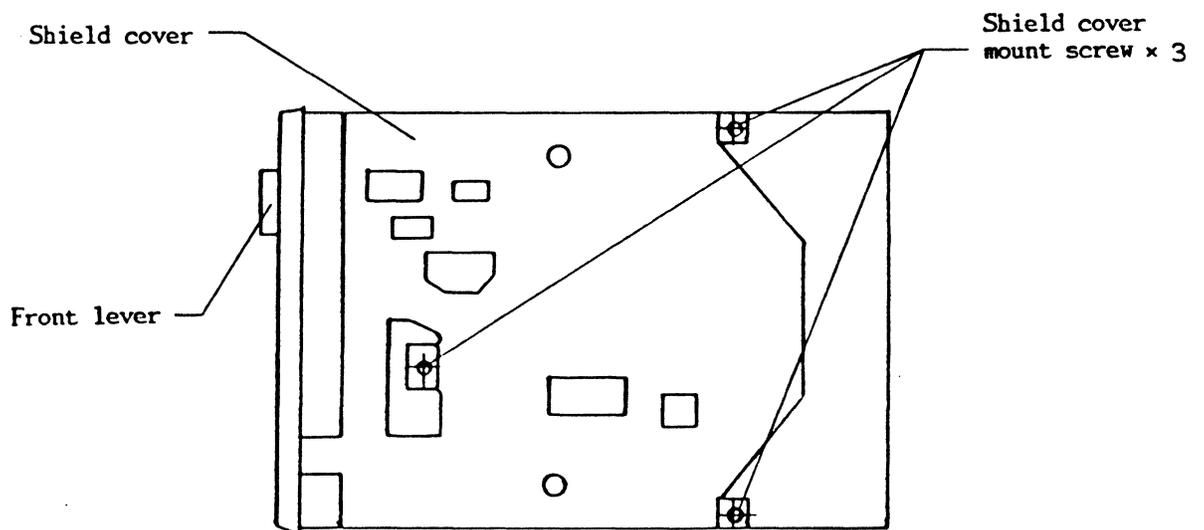

Fig. 407 Shield Cover Mount Screw Locations
- (1) Remove the 3 screws (refer to Fig.407) fastening the shield cover and remove the cover.
- (2) Loosen the 2 screws fastening the clamp holder assembly so that the clamp holder assembly can be moved with the hands.
- (3) Release the door lock cam, turn the front lever to clamp. Fasten with felt, etc., to prevent contact with the upper and lower heads.